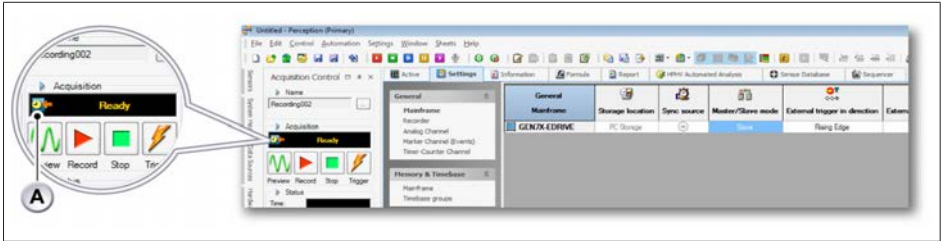

Fig. 14.27 Status - Master detected
- **Master detected** (see Fig. 14.27)